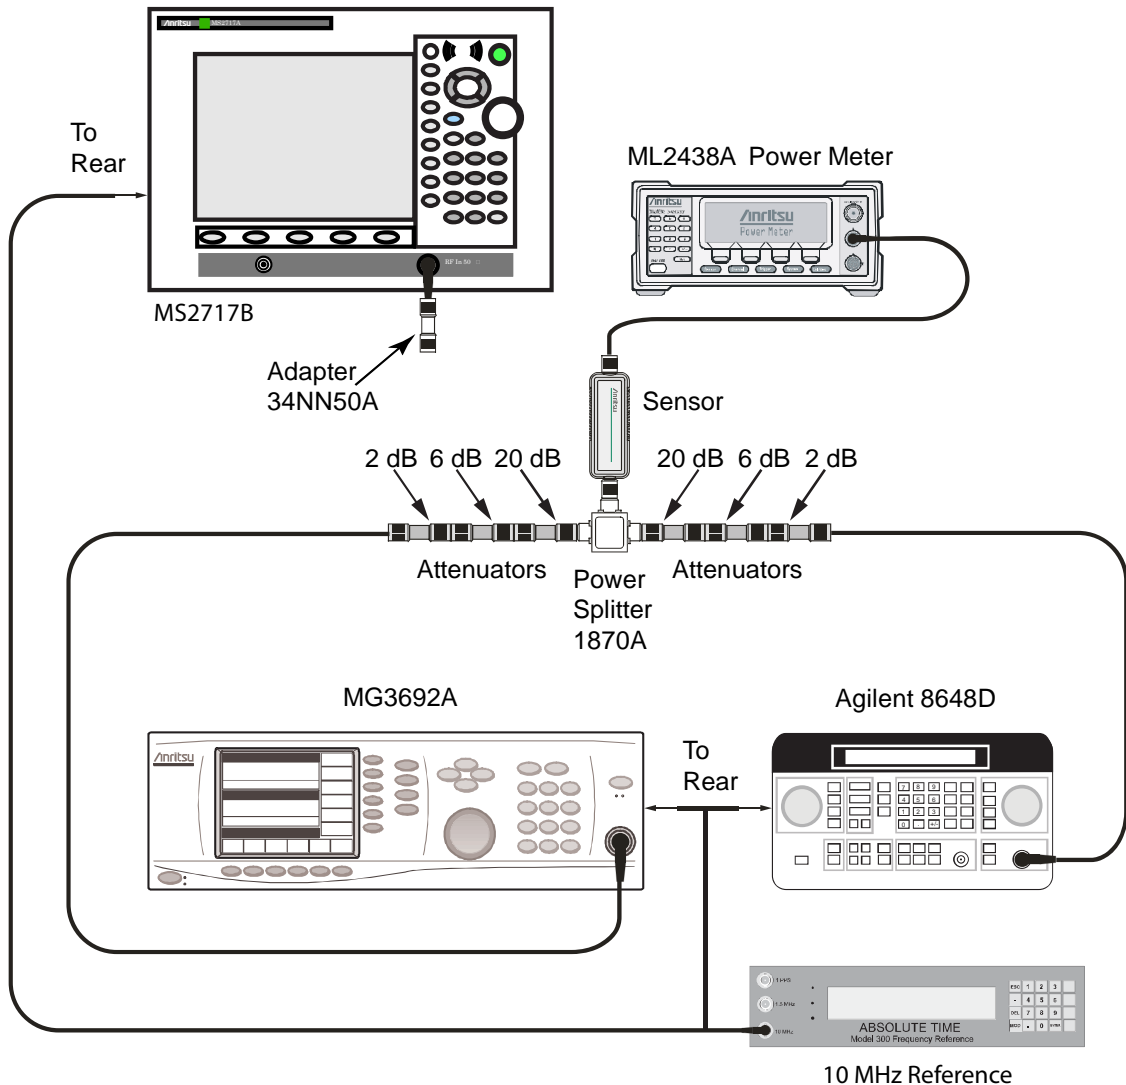

Figure 2-3. Third Order Intercept Verification 3.5 GHz Test Setup
5. Connect the power sensor to the splitter output as shown in Figure 2-3 and adjust the power of the MG3692x (to approximately +16 dBm) so that –20 dBm appears at the splitter output.
8. Set the MS2717B to Spectrum Analyzer mode, then press **Shift** and press **Preset (1)** to preset the MS2717B, then set up the MS2717B as follows: